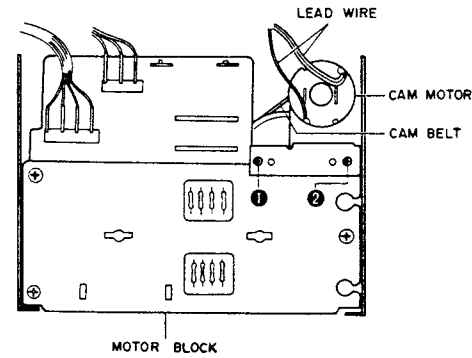

Fig. 3-8
- 3) Remove cam motor base screws **1** and **2** from the motor block. (Refer to Fig. 3-8.)